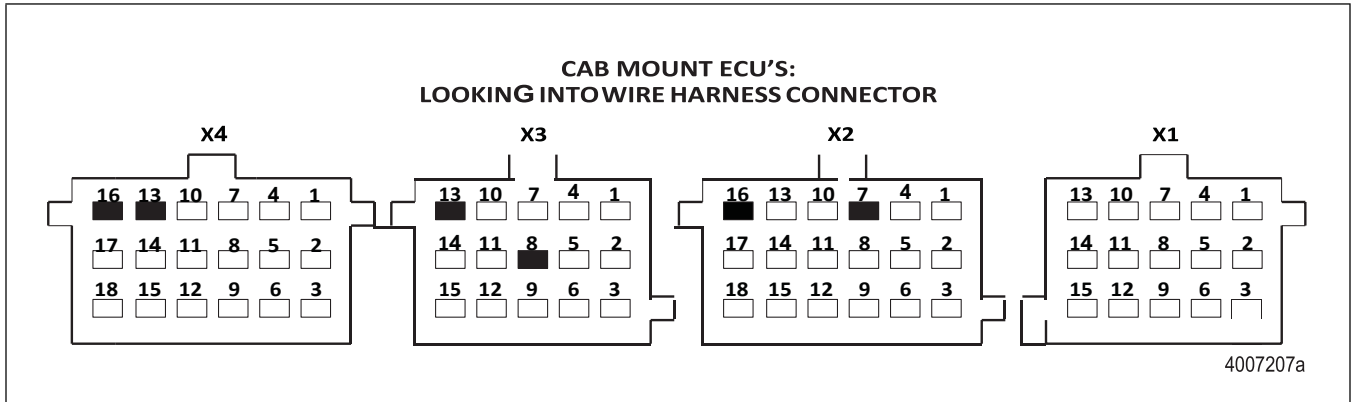
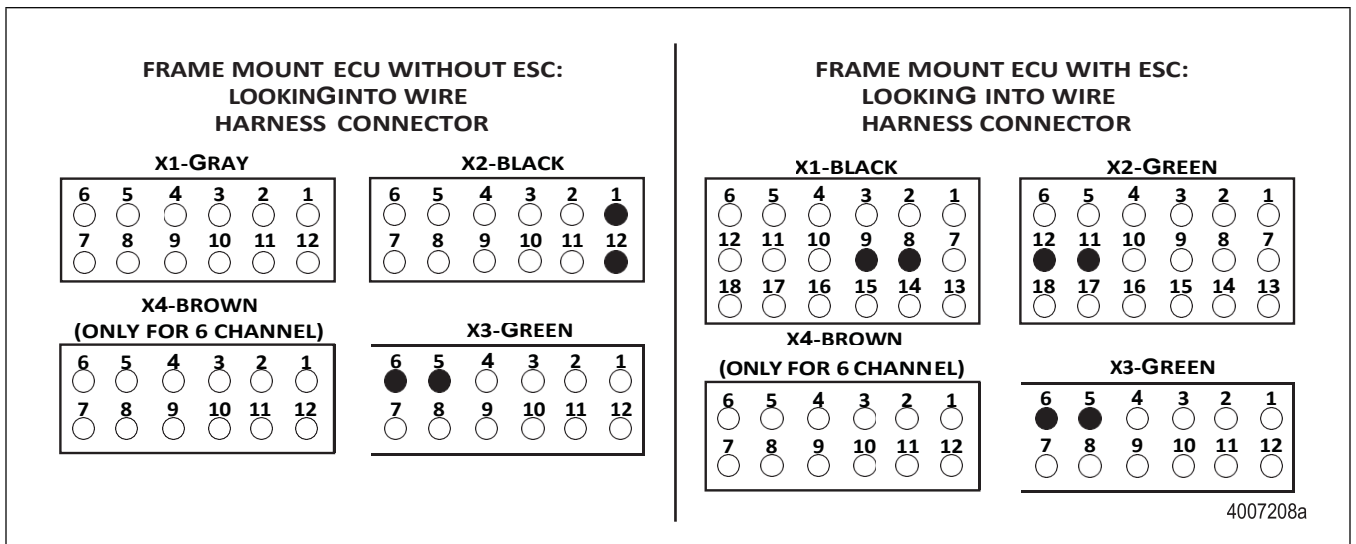

Figure 3.19
Figure 3.20
- Take measurements at the ECU harness to check the ABV and harness together. Figure 3.19 and Figure 3.20.